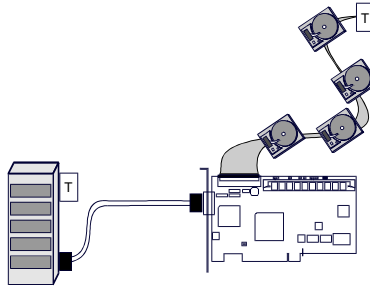

Figure 10. Connecting Internal and External Drives
7. Connect a wide, 68-pin, high-density SCSI ribbon cable to the internal SCSI connector on the AcceleRAID 150 or 250 and connect the other cable connectors to any internal SCSI drives as required. See Figure 10.
8. Connect an active terminator to the end of the SCSI ribbon cable at the end farthest from the controller. See Figure 10.
9. Connect a wide, round, 68-pin VHDCI cable to the external SCSI connector on the AcceleRAID 250 and connect the other end of the cable to an external drive cabinet as required. See Figure 10. External drive cabinets usually have termination built into the end of the SCSI bus.